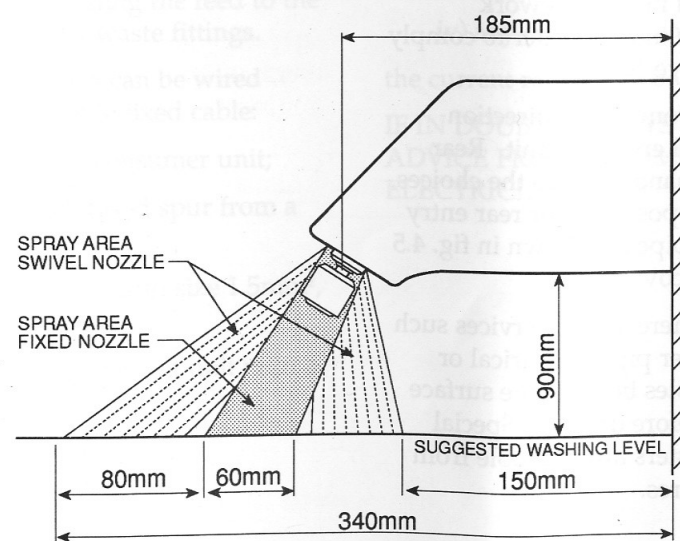

Figure 2.2 Extent of Spray Forms
- ii) Fit the black rubber washer and screw in the chrome swivel spout. The extent of the spray forms with nozzle and ring are shown in fig. 2.2. There is no facility to lock the adjustable nozzle at a fixed angle.